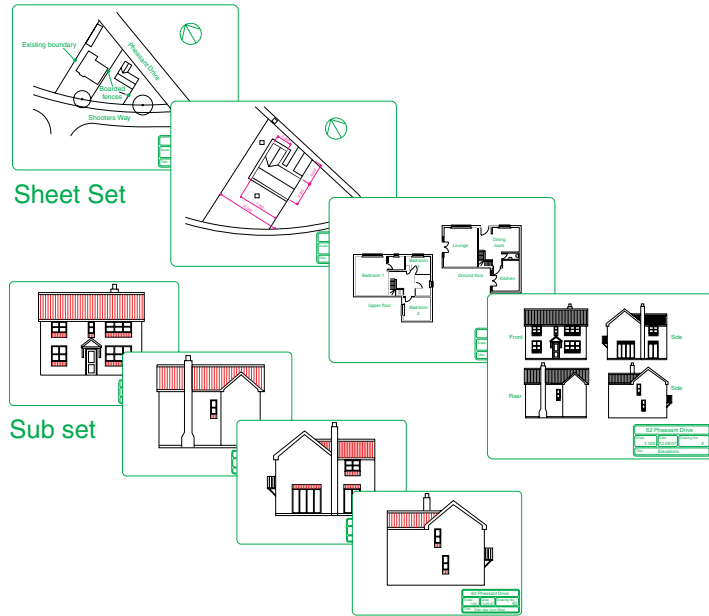

Fig. 11.2 The eight drawings in the **62 Pheasant Drive** sheet set
- Construct each of the drawings which will form the sheet set in this drawing template. The whole set of drawings is shown in Fig. 11.2. Save the drawings in a directory – in this example this has been given the name **62 Pheasant Drive**.